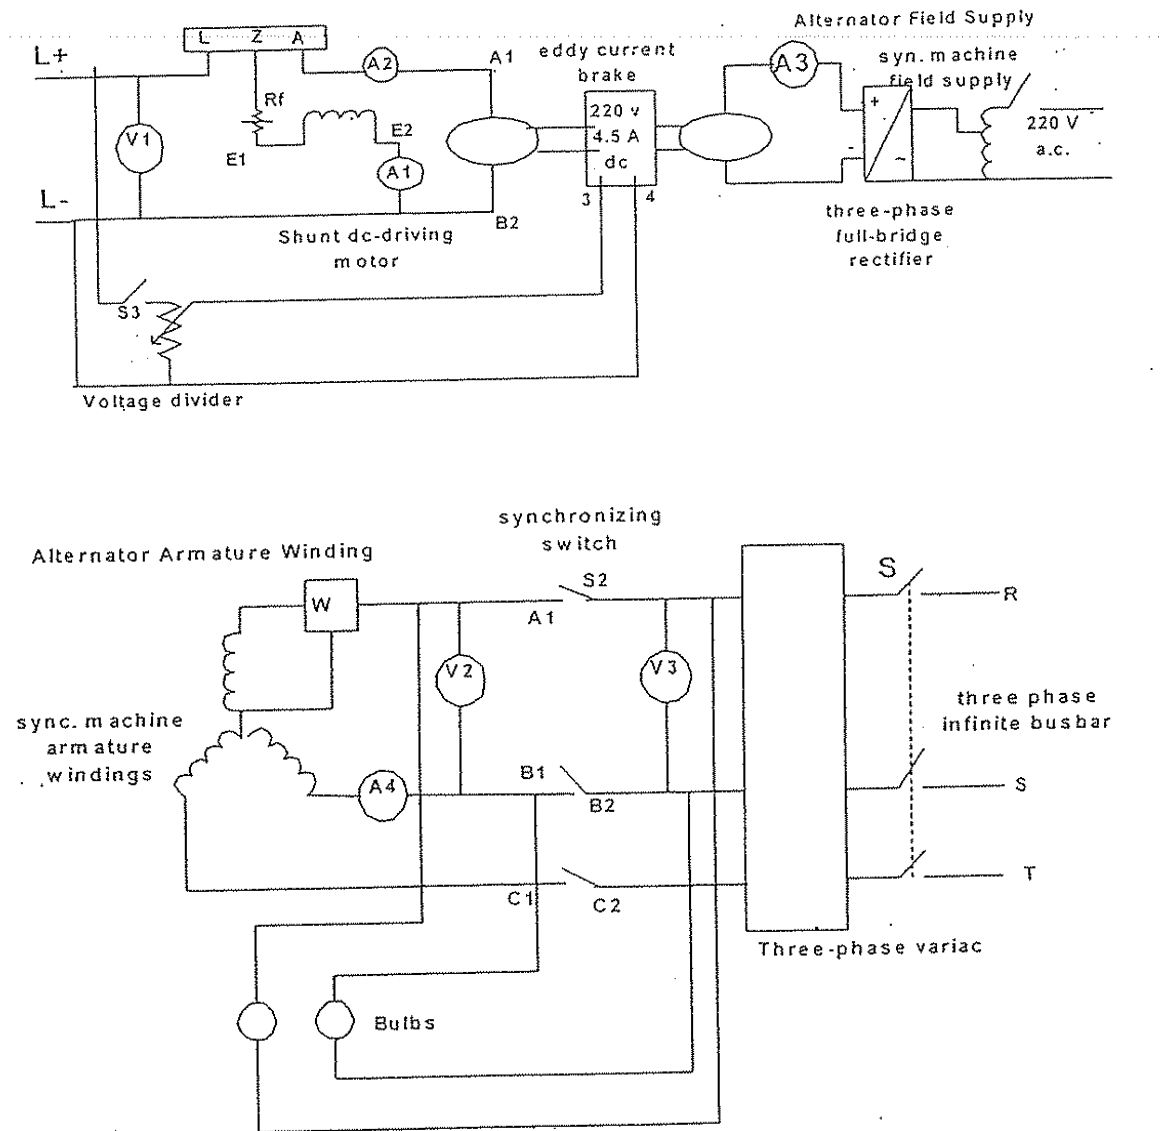

Figure 3 Experimental setup
1. Connect the circuit as shown in Fig.3 start the dc driving motor and adjust its speed to a value close to that of synchronous machine. Switch on the three-phase supply and adjust the three-phase variac until the line to line voltage across the supply terminals (L1,L2,L3) of the synchronizing switch is equal to the rated value of the synchronous machine. Slowly increase the field current of the synchronous machine using single-phase variac until the line to line voltage across the machine terminal of the synchronizing switch is equal that of the supply terminals. Check the phase-sequence of the voltages at the machine and supply terminals of the synchronizing switch using a phase-sequence of each side is not the same, switch off the three-phase supply and interchange the two phases of the supply.